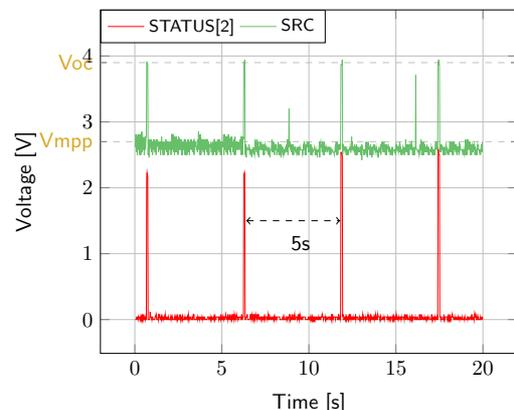

Figure 3: **SRC** and **STATUS[2]** while energy is extracted from **SRC** (**BATT** under **Vovch**)
- **SRC**: Regulated at **Vmpp**, which is a voltage equal to the open-circuit voltage (**Voc**) times the MPP ratio defined in Table 4. **Vsrc** equals **Voc** during MPP evaluation (see Figure 3). Note that **Vsrc** must be higher than 380 mV to coldstart.
- **STATUS[2]**: Asserted each time the AEM10941 performs a MPP evaluation (see Figure 3).